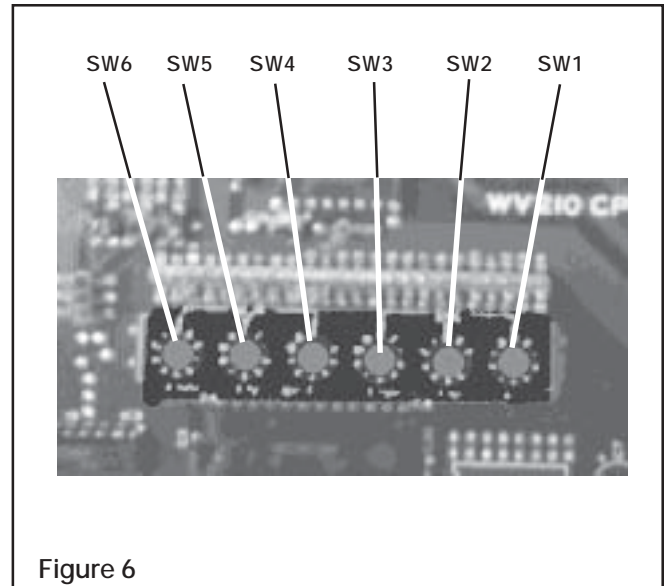

Figure 6
3. Define Pulses Per Revolution (PPR) of PG1 using switches SW1, 2, and 3. (See Fig. 6)
4. Define Measuring Roll Diameter (*When using a direct coupled PG1*) or Measuring Wheel diameter (*When using the wheel provided with PG1*) in millimeters using **SW4, 5, and 6** (See Fig. 6).